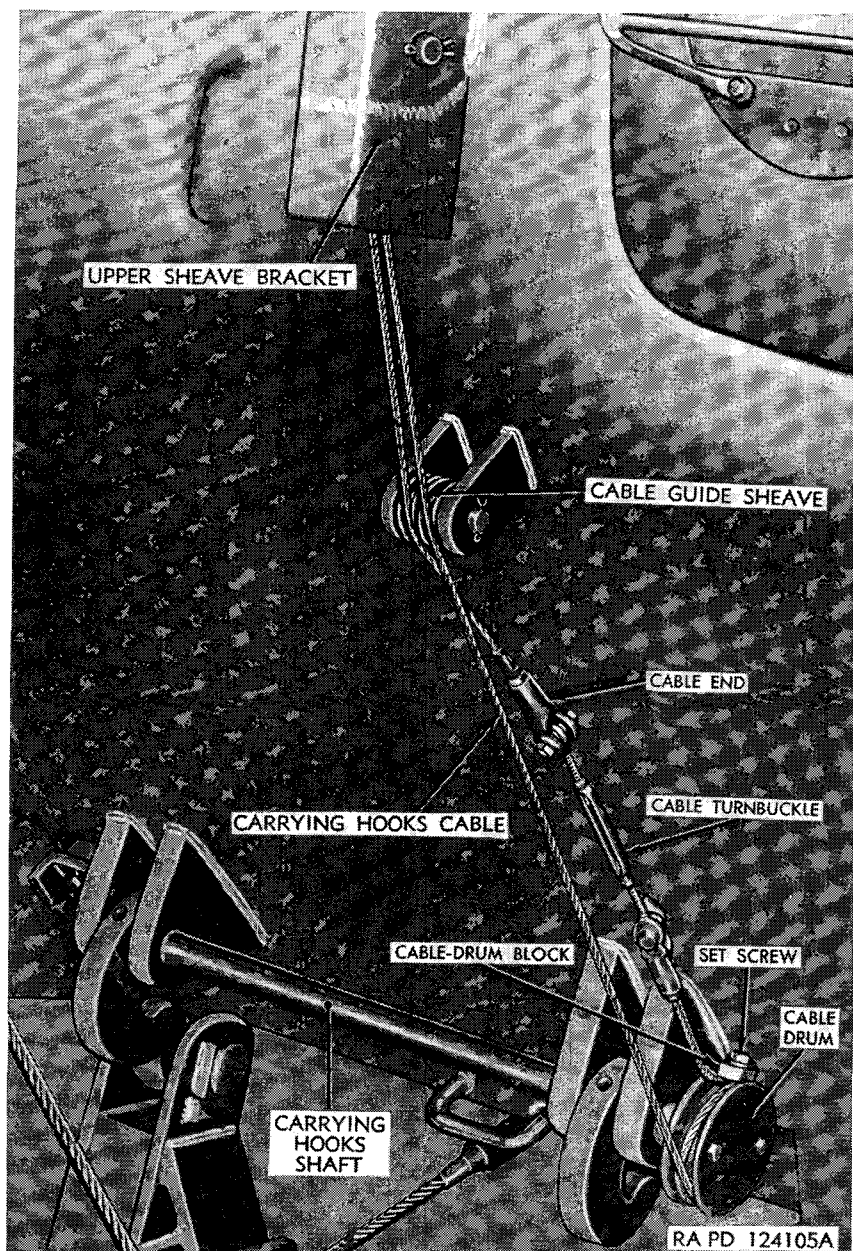

Figure 36. Carrying-hooks cable installed.
h. Hold the end of the cable to which the turnbuckle (fig. 53) is attached approximately 2 feet above the drum at the end of the carrying-hooks shaft. Wind the cable one and one-half turns around the drum, then secure the cable to the drum by bolting the cable-drum block (removed in *a* above) to the cable drum (fig. 36) with the bolt and washer.
i. Lay the long end of the cable vertically across the front of the vehicle so that the line formed by the cable is at a right angle to the carrying hooks shaft (fig. 36).
s. Push the cable-end sleeve down over the cable far enough to insert the pointed plug, point first, among the cable strands. Alternately tap the sleeve and the plug to drive them onto the cable until the lower end of the sleeve is approximately $2\frac{3}{8}$ inches from the end of the cable. Drive the plug in so that it seats solidly. Compress the protruding cable strands and screw the clevis part tightly back onto the cable-end sleeve (fig. 36).